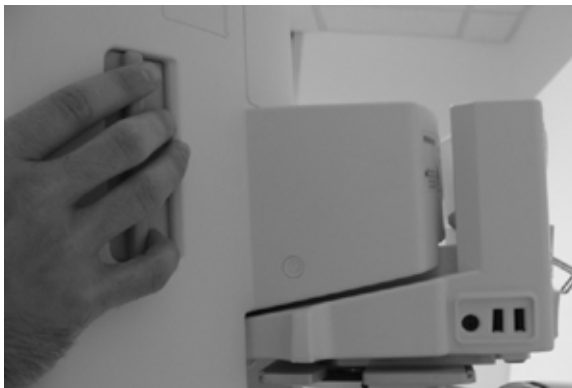

FIGURE 4-25
2. Push the **V 21** backward onto the V Dock, until the latch engages, with a corresponding audible click (shown in FIGURE 4-25).